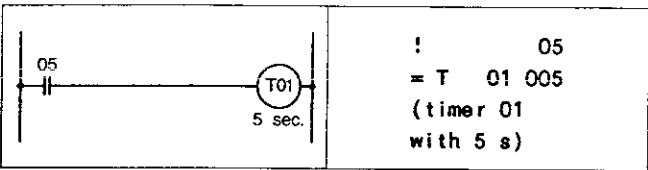

Figure 14.7
- h. During programming, timer or counter values are entered immediately with the T/Z assignment (Figure 14.7).